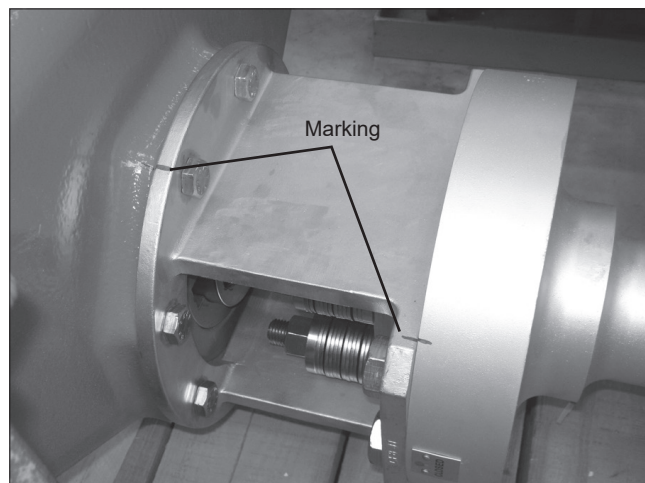

Fig. 15 Marking the position of the actuator
- If the actuator must be removed from the valve, mark the position of the actuator to the bracket and to the body with a permanent marker before dismantling (see Figure 15). In this way, you can find the right position of the actuator when re-mounting, and it cannot trigger a malfunction.